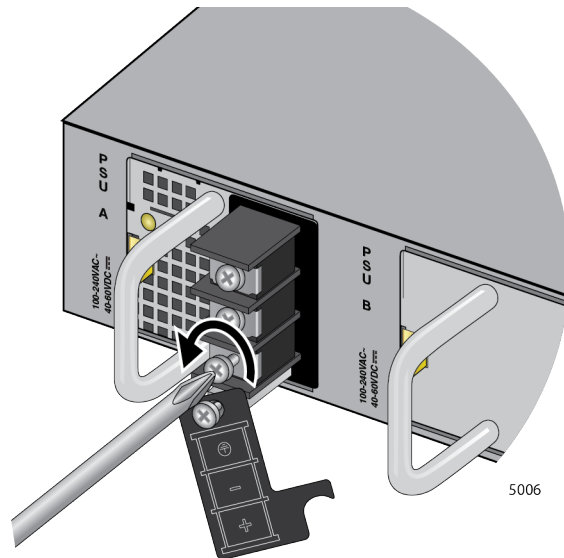

Figure 63. Loosening the Ground Screw
4. Loosen the ground screw with a Phillips-head screwdriver. Refer to Figure 63.